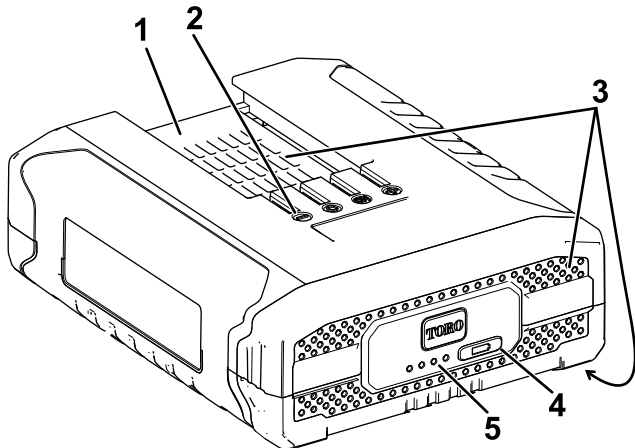

Figure 2
3. Line up the cavity in the battery pack (Figure 2) with the tongue on the charger.